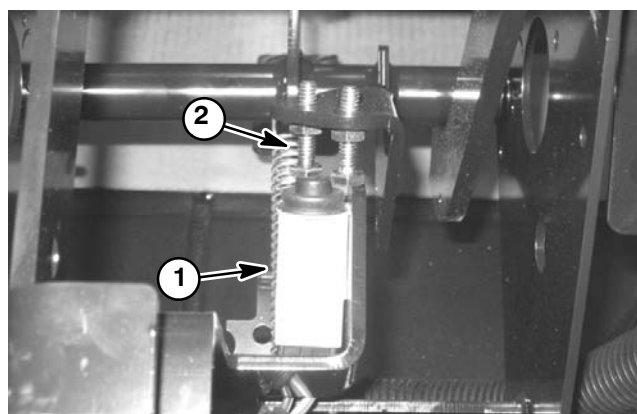

Figure 13
1. Adjust cap screw on accelerator pedal so switch plunger is not bottomed out when accelerator pedal is released (Fig. 13). Tighten nut to secure cap screw in position.